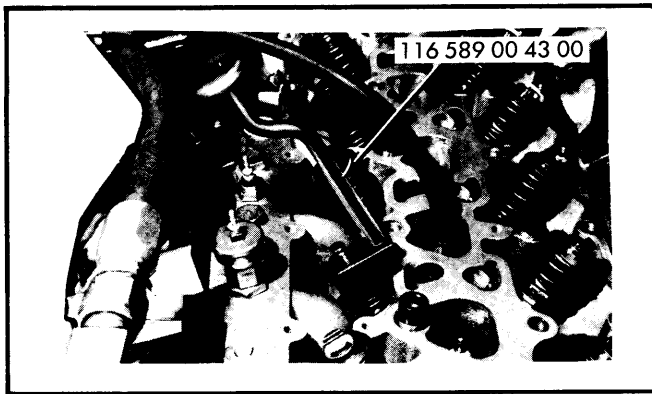

Fig. 4 Installing Valve Stem Seal
**Installation** — Replacement valve stem seals are supplied in a kit which includes assembly sleeves. Place sleeve over stem and install lubricated seal with installing tool. See Fig. 4. Install remaining components in reverse order of removal.